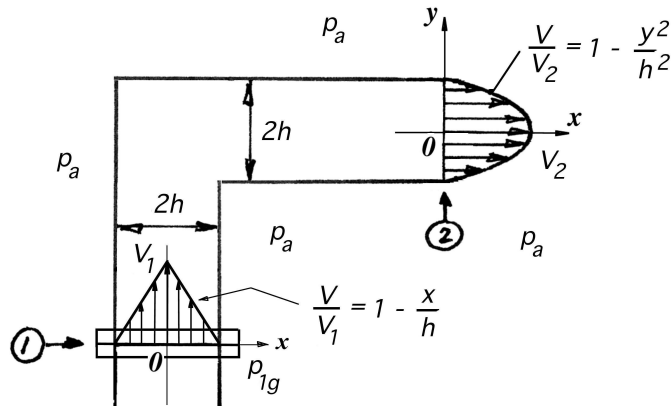

Figure P3.50
- 3.50** A steady flow of air of constant density ρ issues from a two-dimensional duct of width w and height $2h$, as shown in Figure P3.50, with a velocity distribution that is parabolic with a maximum value of V_2 . The inflow to the duct has a symmetrical, triangular distribution of velocity with a maximum value of V_1 . The pressure is atmospheric at the exit, and the gauge pressure at the inlet is p_{1g} . Ignore the weight of the fluid.